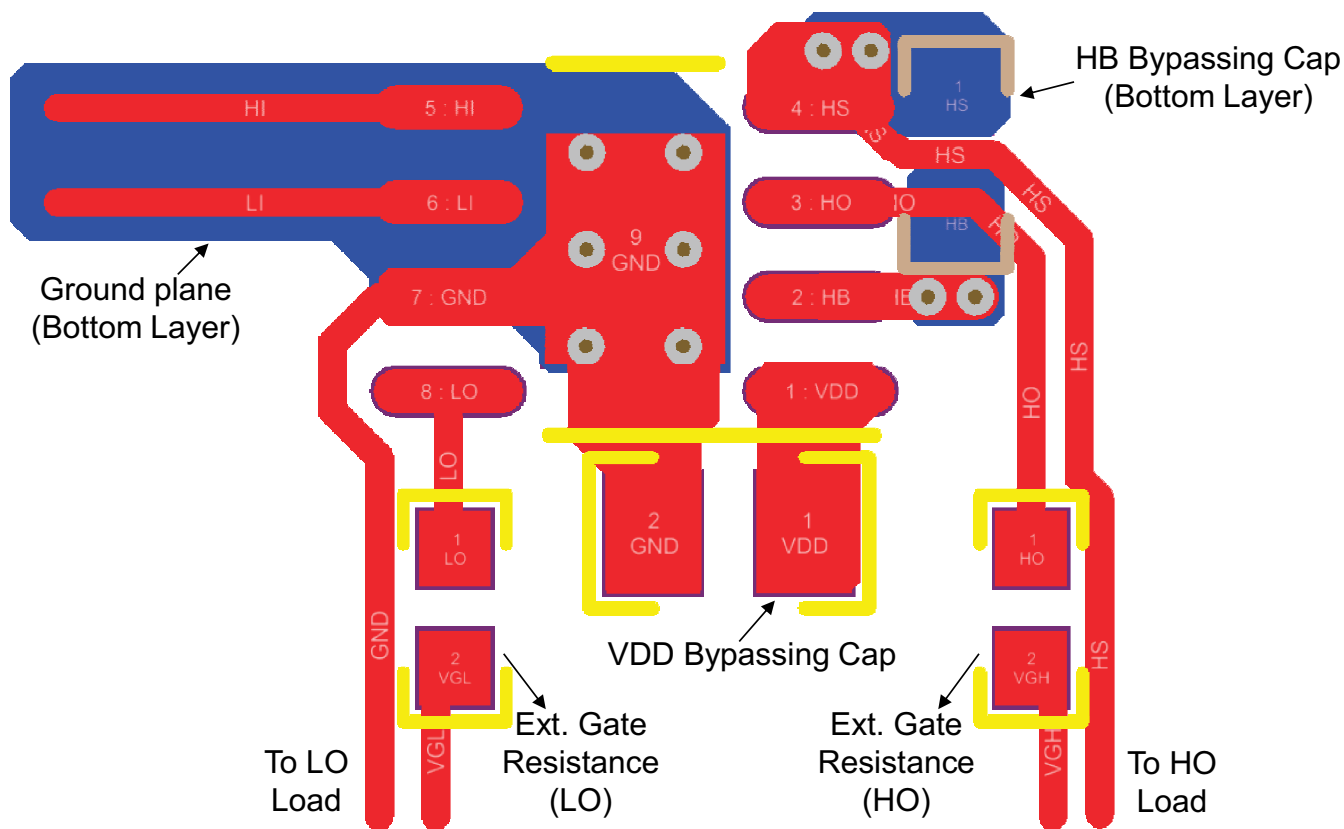

Figure 9-1. UCC27211A-Q1 PCB Layout Example
- Locate the $V_{DD} - V_{SS}$ and $V_{HB} - V_{HS}$ (bootstrap) capacitors as close as possible to the device (see Figure 9-1).